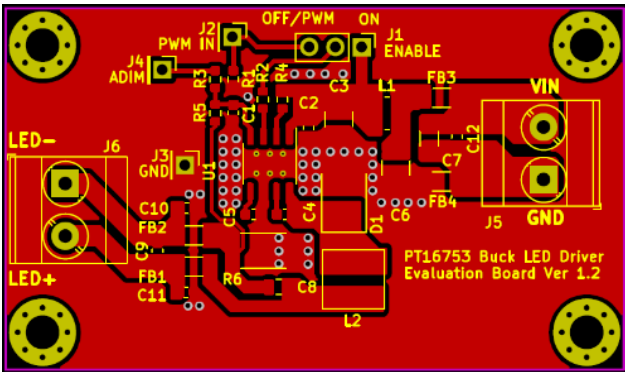

Figure 12: Top side of the PT16753 evaluation board
For EMC emission test reason, if the LED string is connected through a long wire harness, lower ripple current on the LED string is preferred, a simple solution is add a ceramic capacitor (such from 0.47uF~2.2uF) between the LED+ and LED-. In this case, the inductor ripple current (IL) remains high, and high frequency ripple current (IRIPPLE) will shunt by the COUT as local bypassing, only nearly dc current (IAVG) will flows through the LED string (Figure 12), the ripple components were greatly reduced.